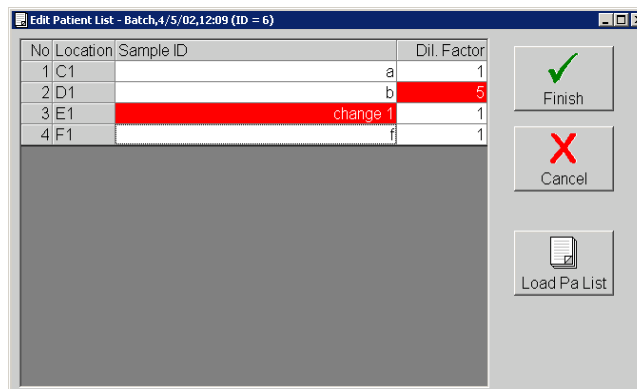

Figure 5-53 Edit Patient List Dialog Box
While editing the database, the system marks the changes you make in red text. This distinguishes the change from the patient information entered into the original batch. Figure 5-53 shows an edited patient list.
2. Select the desired batch containing the patient list that you want to edit and click **Select**. The **Edit Patient List** dialog box opens similar to Figure 5-53.